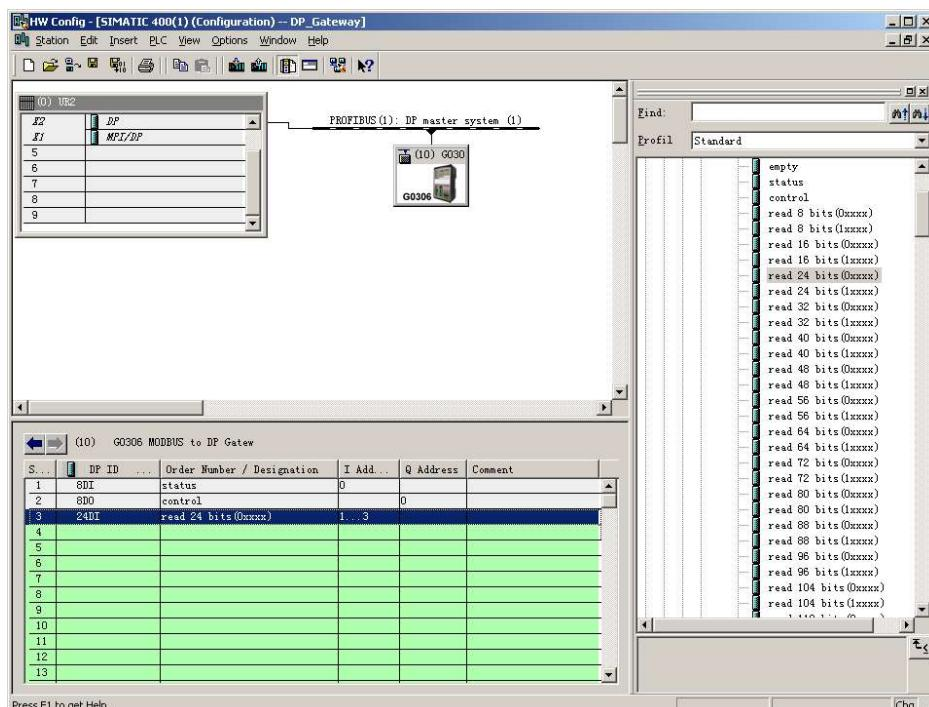

Figure 16 Add“read 24 bits(0xxxx)”module
a) Add the "read 24 bits(0xxxx)" module, as shown in Figure 16: